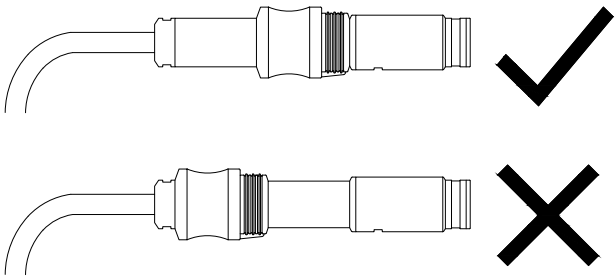

Figure 11-4: UV Cell Collar Position
3. Check the sliding collar on the UV cell is positioned as far forward as possible on the body of the UV cell. Refer to figure 11-4.